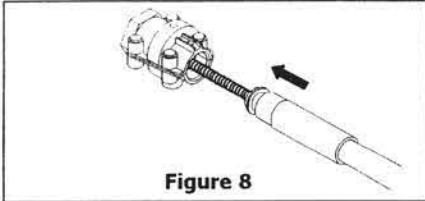

Figure 8
STEP 2. Remove protective sleeve from cable end, making sure that dirt does not get onto the lubricated cable end. Feed cable end into LOWER helm entry spigot until it contacts the internal gear, then turn steering wheel counterclockwise to draw cable fully into the helm (see Figure 8). Continue turning wheel until end fitting of cable is entered into the entry spigot, and wheel cannot be turned further. During this you may hear a click as the locking mechanism engages. Turn steering wheel fully in the other direction until it cannot be turned any further, and check that cable end fitting is retained inside the entry spigot.